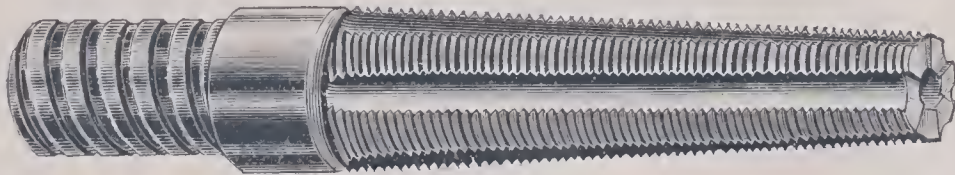

Fig. 19. Taper Recovering-Tap.
**RECOVERING-TAPS.** Figs. 19, 20 and 21 show three forms of these tools, which are used to pull the rods to the surface in case of breaking them or dropping them into the hole.